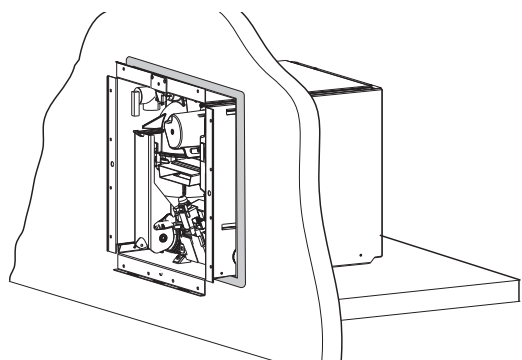

Fig. 15
- Apply an adequate amount of watertight sealing material to the entire flange area of the installation frame and at the corners, see grey marking in Fig. 15.